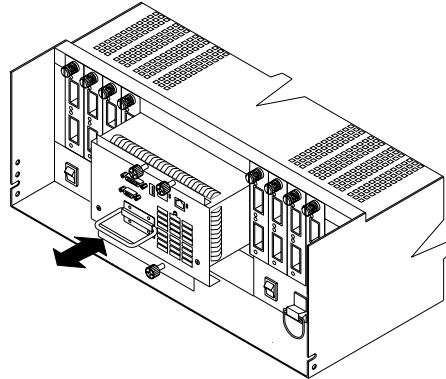

Figure 10. Removing and replacing the power supplies and fan and communications module
- 4 To install the power supplies and fan and communications module in the back of the controller unit, reverse the instructions in Figure 10 on page 14.